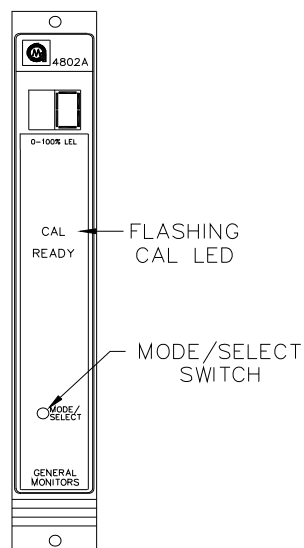

Figure 18: Entering CAL Check Mode
2. Enter the Calibration Check mode by pressing and holding the Mode/Select switch until the **CAL** LED begins to flash (about ten seconds). When the **CAL** LED begins to flash, release the Mode/Select switch. The unit is now in the Calibration Check mode (Figure 18).